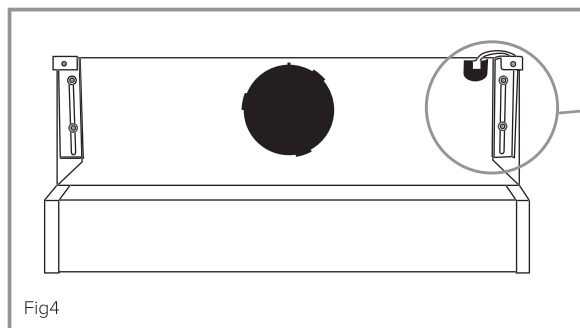

Fig4
4. Hang the hood on the brackets and adjust the brackets to a suitable height. The adjustment mechanism is shown on page 14, Fig 4.